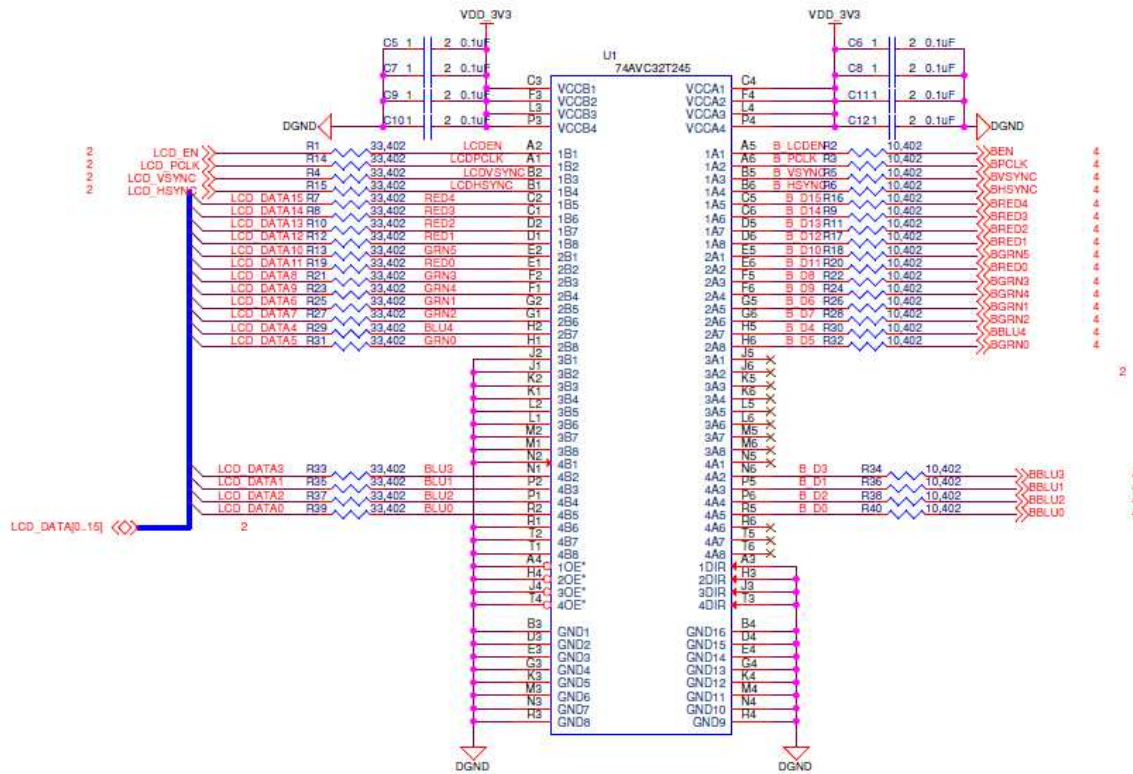

Figure 6. LCD Signals buffered through U1
The LCD signals are buffered through U1 (74AVC32T245), which is a 32-bit dual-supply bus transceiver. 74AVC32T245 features two ports, A and B. Each port tracks a separate power-supply rail. This allows for universal low-voltage translation. The output-enable (OE) input specifies whether the buses are isolated. The direction-control input, on the other hand, determines the data transmission direction. On the BeagleBone LCD3 Cape, no voltage translation required since its two power rails are both 3.3V. Both the direction-control and output-enable inputs are set low, so the data are transmitted from B to A before going to LCD connector J4. **Figure 6** shows the LCD signals are buffered through U1.